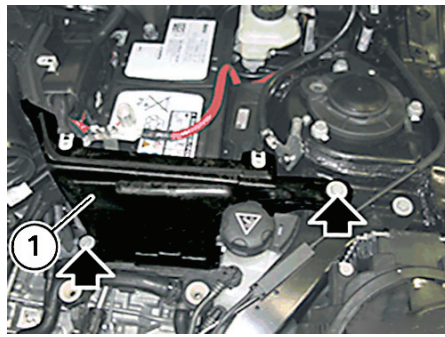

Fig. 4 Tension strut removal
8. Remove screws and remove tension strut (1), **Fig. 4**.
5. Install tension strut (1) and screws, **Fig. 4**. **Torque** screws to 14 ft. lbs.